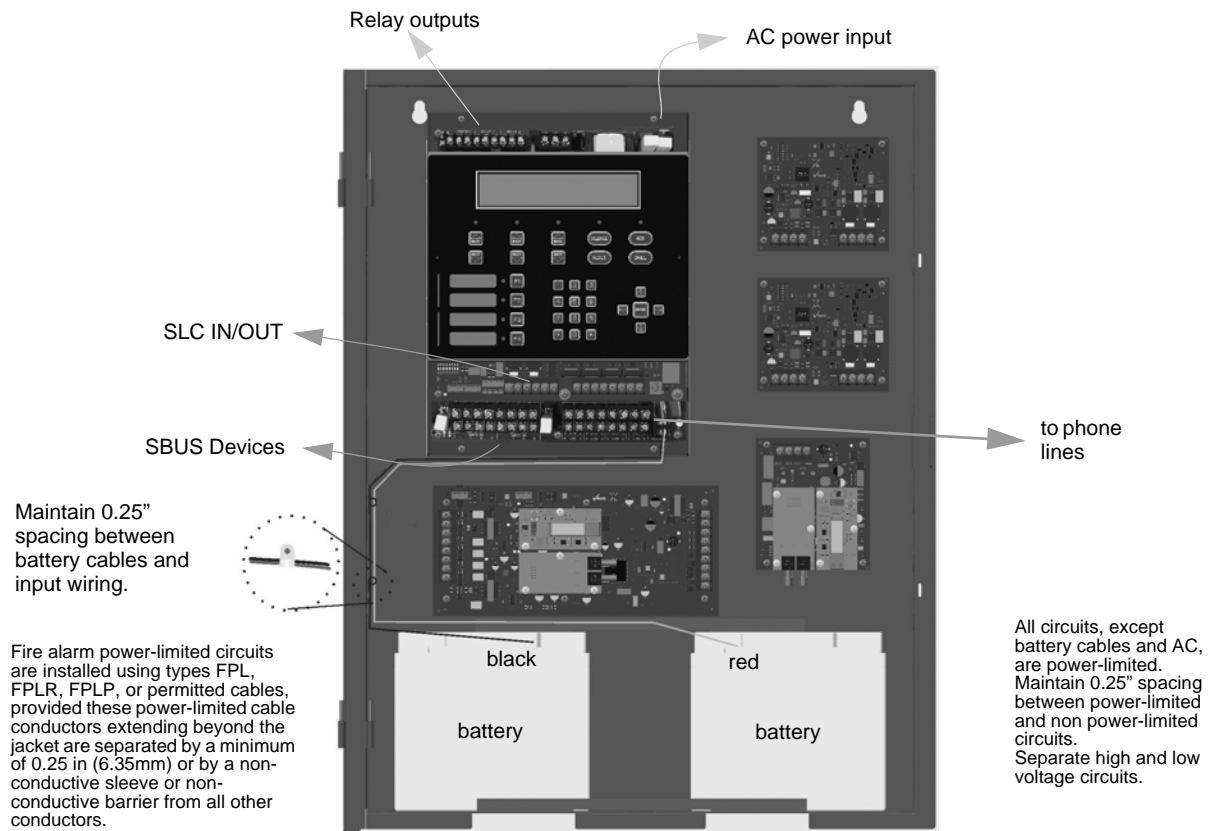

Figure 3.2 Wire Routing Example for TR-2100
- Route the wiring around the inside perimeter of the cabinet. It should not cross the circuit board where it could induce noise into the sensitive microelectronics or pick up unwanted RF noise from the high speed circuits. See Figure 3.2 for an example.